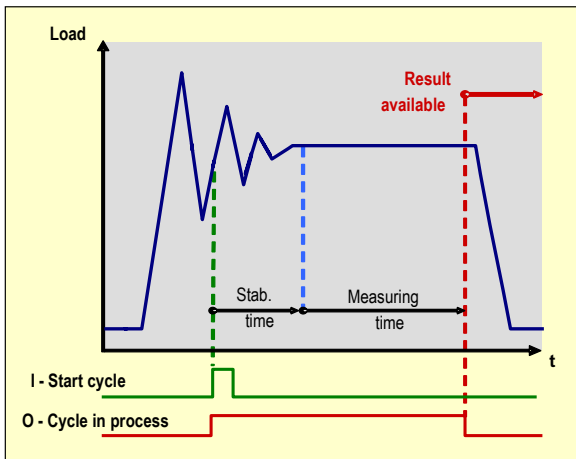

Fig. 7
- by an input assigned to 'start checkweigher cycle' (Fig. 7 & 8). Caution, only input 2 is operational if both inputs are assigned to the 'start checkweigher cycle' function.
- a time value (Fig.7).